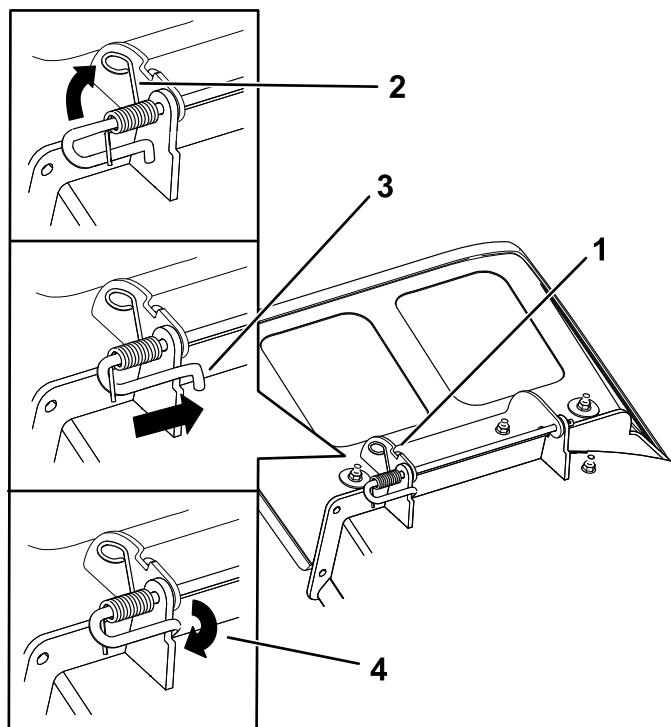

Figure 78
4. Position the new discharge deflector with the bracket ends between the welded brackets on the deck as shown in Figure 78.
6. Position the spring on the rod as shown in Figure 78 so that the shorter spring end comes from under the rod before the bend and going over the rod as it returns from the bend.
7. Lift the loop end of the spring and place it into the notch on the deflector bracket (Figure 78).
8. Secure the rod and spring assembly by twisting it so that the short end of the rod is behind the front bracket welded to the deck (Figure 78).